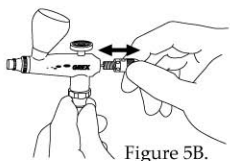

Figure 5B.
3. Hold the PVA knob or needle and move it in and out of your airbrush repeatedly (pumping) to clean the internal packing. Refer to Figures 5B and 5C below.